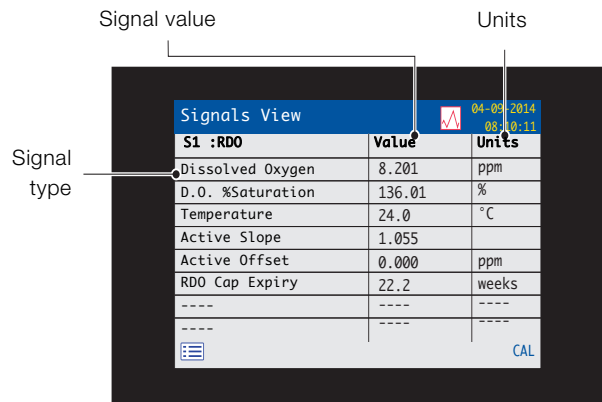

Fig. 8.7 Signals view
- *Signals view* – displays a list of active signals and their values – see Fig. 8.7